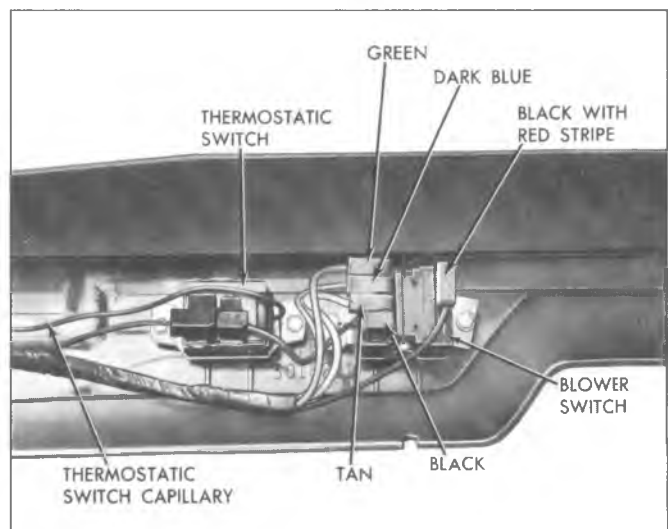
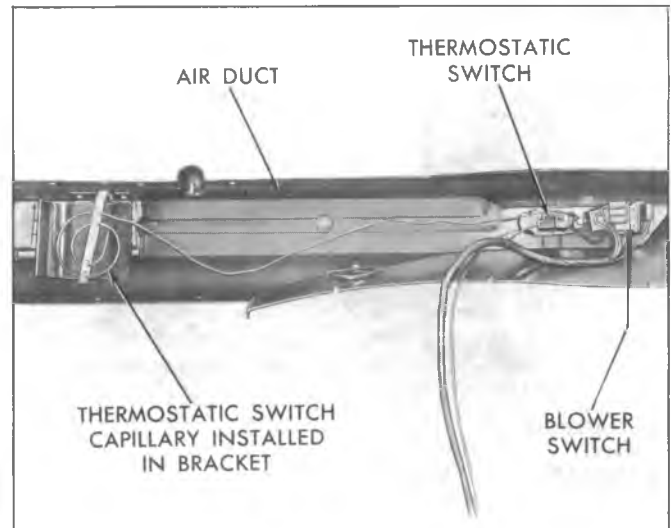

Fig. 55—Thermostatic and Blower Switch Locations
Fig. 56—Thermostatic Switch Capillary Retaining Bracket
The blower and thermostatic switches are located inside the duct assembly as shown in Figure 55. The coolant system need not be opened up to gain access to these switches. However, the entire unit must be lowered from its dash mounting.
2. Install the switch electrical connections as noted in Figure 55. If the thermostatic switch was removed, be sure to install the sensing capillary in the bracket as shown in Figure 56.